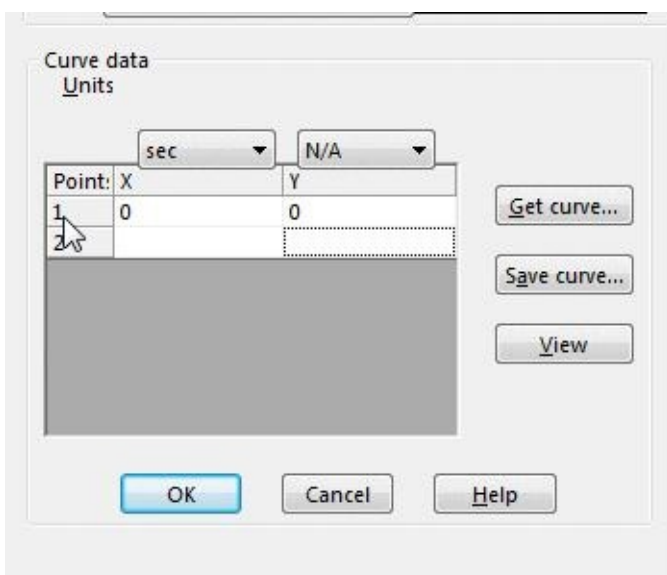

Figure-6. Curve data after adding one more point
- Double-click on the **1** button under the **Point** column. The next point will be added in the table; refer to Figure-6.